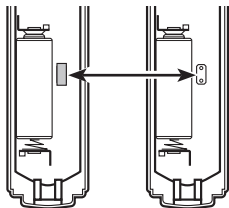

**Figure 3**
- **Screw Mounting:** To mount with screws, remove back of case by pushing in tab on bottom with a small screwdriver (see Figure 1). *Note:* Remove material in screw holes (if needed) before mounting with screws. Attach back of case to door jamb or wall (see Figure 3). Snap front of push button on.